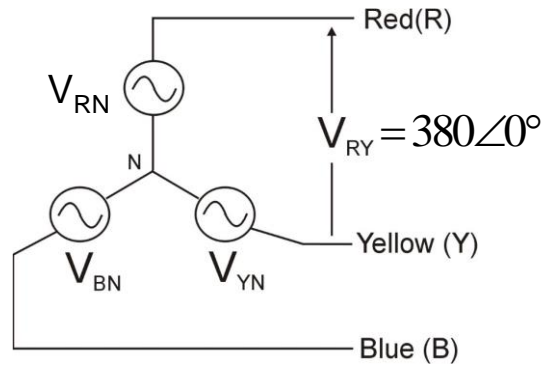

Figure Q2
- Q2 (a) A balanced delta connected load of $(3 + j4) \Omega$ is connected to a 3-phase 380V/50Hz (line RMS voltages) power supply shown in Figure Q2.